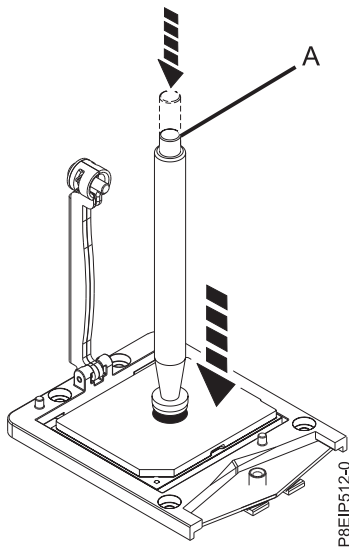

Figure 69. Lowering the removal tool onto the system processor module
3. Lower the vacuum pen tool onto the system processor module to install. Fully press the top of the pen (**A**) and hold the pen in the center of the system processor module as shown in Figure 69. Release the top of the pen to fasten the pen onto the system processor module.